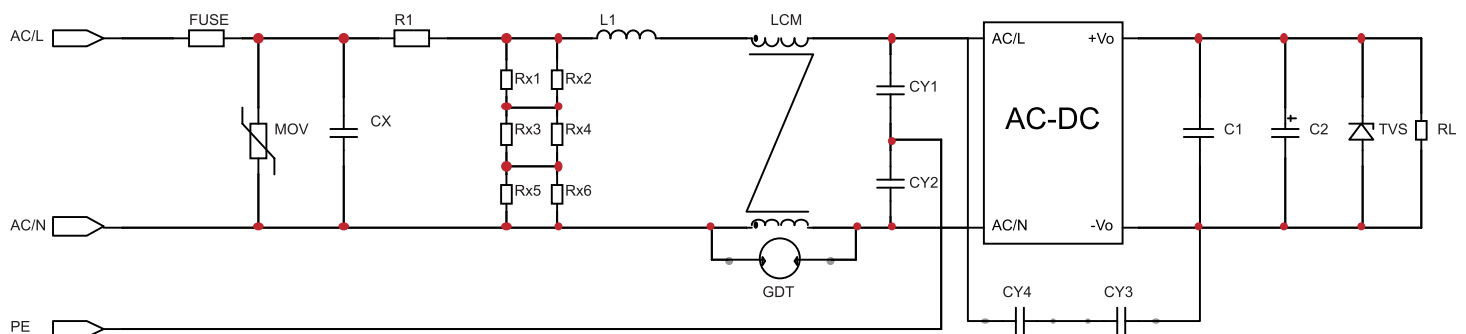

Figure 3 : category I device recommendation circuit
6. When the output terminal of the product needs to be connected to PE through a Y capacitor, or close to the metal frame, please refer to the Fig. 3 for recommended circuit.